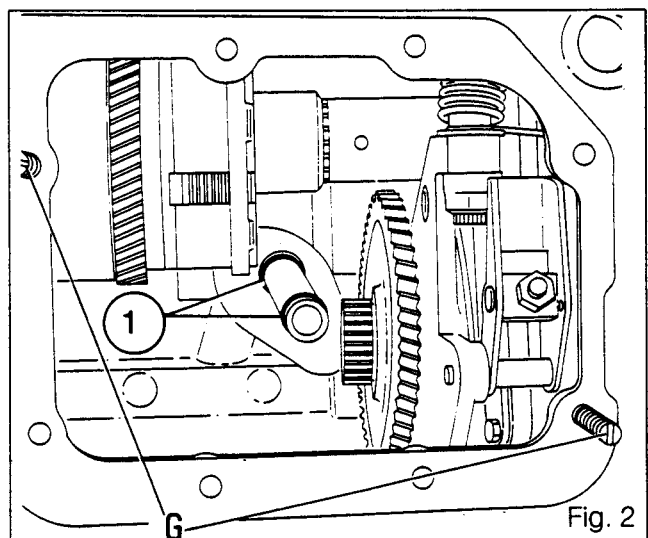

Fig. 2
8. Check that the O-rings (1) of the transfer tube are not damaged and refit the tube (Fig. 2).
10. Screw in two opposing guide studs G (Fig. 2).